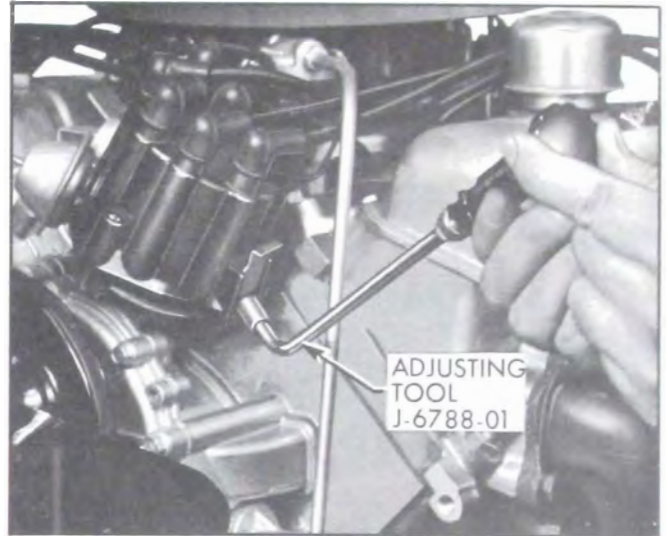

Figure 10-33—Adjusting Contact Point Dwell Angle
3. Start engine. Lift adjustment window and insert 1/8" Allen wrench in adjusting screw. See Figure 10-33. Set dwell angle at 30 degrees.